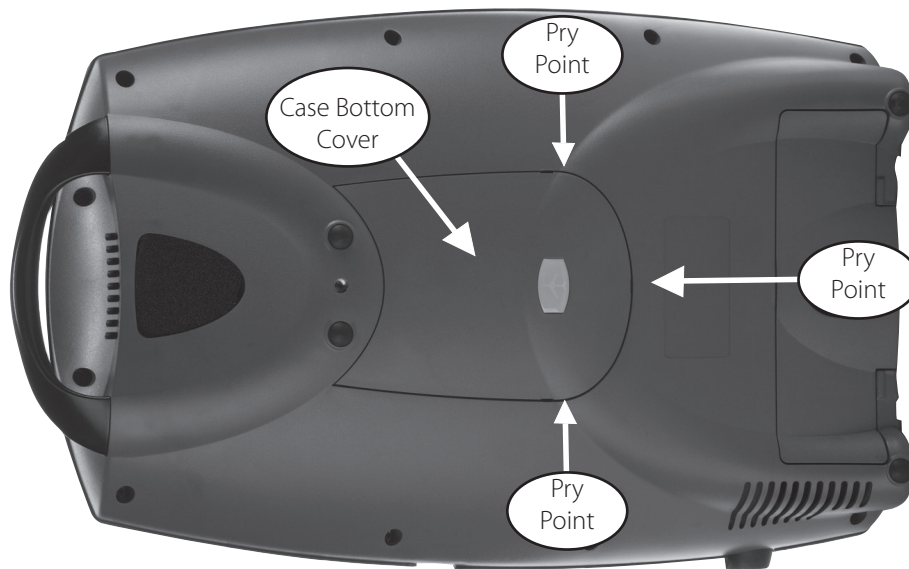

Figure 55: Case Bottom Cover Removal
2. Flip unit over onto a padded ESD safe surface. Using a small flat tip screwdriver to pry open the cover at each pry point, remove the Case Bottom Cover as shown in Figure 55.
14. Install the Case Bottom Cover as shown in Figure 55.